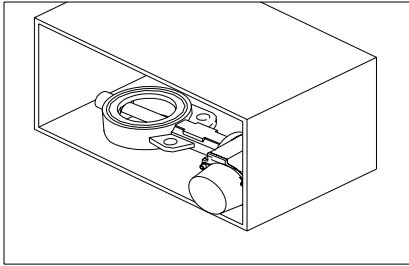

Fig 2.1 Storing the Valve.
- 4.1 Valves are being packed in cartons, boxes or pallets while shipping to the customer. Care should be taken to store them in a suitable place. We recommend storing the valves indoors in a dry and dust free atmosphere (Refer to figure 2.1). While unpacking the valves, check that the valves and any other accessories have not been damaged during transportation.